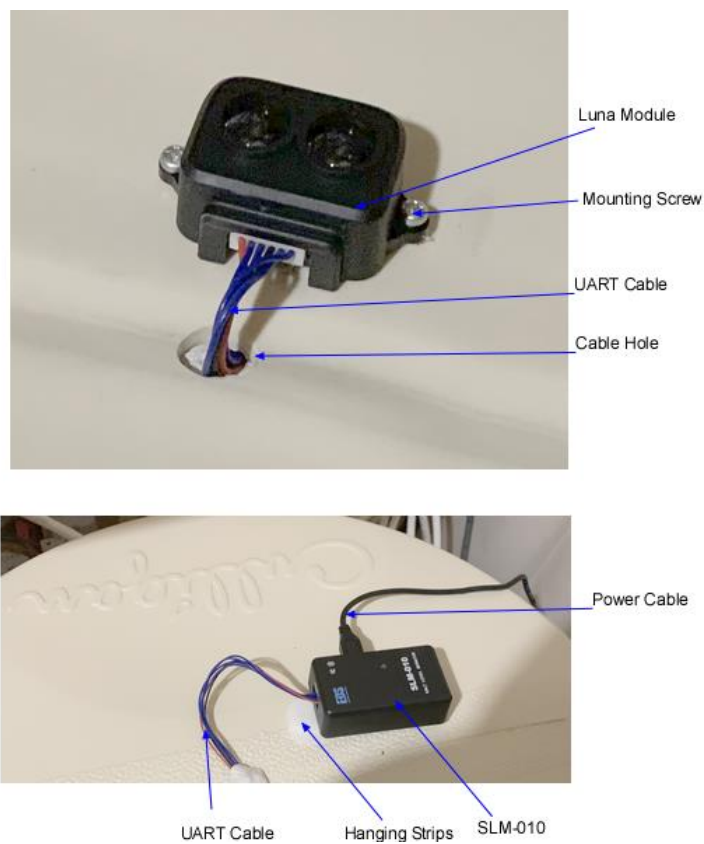

Figure 4 SLM-010 and Luna LiDAR Installation
2. Mark position of Cable Hole (see Figure 4) on salt tank lid. It can be center of lid, but be sure that the space under position (3" diameter) does not have any obstacles (see Figure 2).
4. Connect power cable and install SLM-010 on external side of salt tank lid (near Cable Hole) as it is shown in Figure 4 by using pair of hanging strips.
7. Install Luna module on internal side of salt tank cover by using two screws as it is shown in Figure 4.